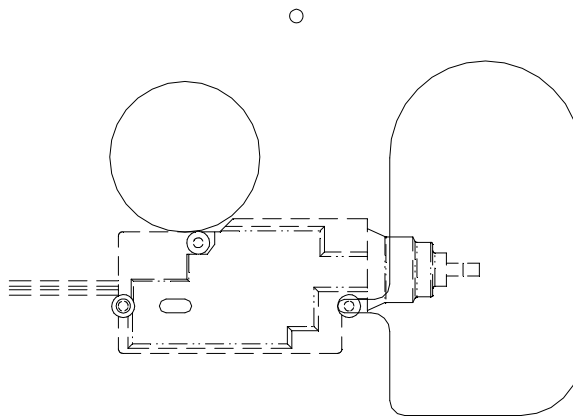

Figure 1.
1. Open main door and remove the (2) screws fastening the screen latch striker. Retain the screws and striker for re-use.
5. Remove the Power Lock Actuator mounting screws (2). Retain the screws for re-use.
10. Re-attach the actuator using the (2) screws retained from step 5 (Top mounting hole on actuator is not used.) See Figure 1.
13. Install the screen door latch striker with its (2) screws. Latch the screen door to the main door and check for proper alignment of the screen door latch striker. Adjust the striker as necessary to latch the doors together.